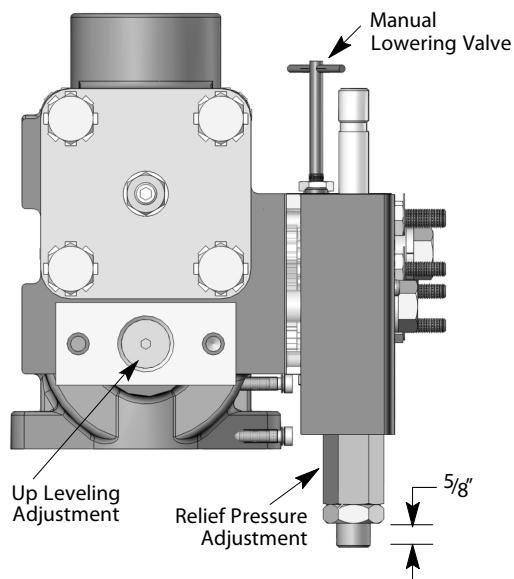

Figure 1 - Relief Pressure Setting
- Lower the car onto the buffers by opening the manual lowering valve. See Figure 1.